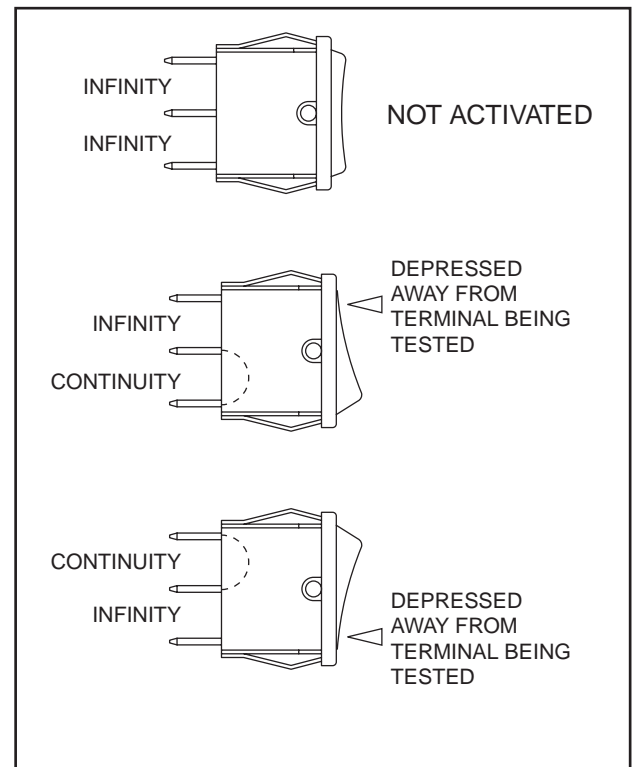

Figure 7-13. – Test 24, Step 6
6. Leave the test lead connected to the center terminal of SW1 from Step 5. Connect the other test lead to an outer terminal. Depress the switch away from the terminal being tested (see Figure 7-13). "Continuity" should be measured. Repeat the procedure with the test lead connected to the other outer terminal. "Continuity" should be measured.